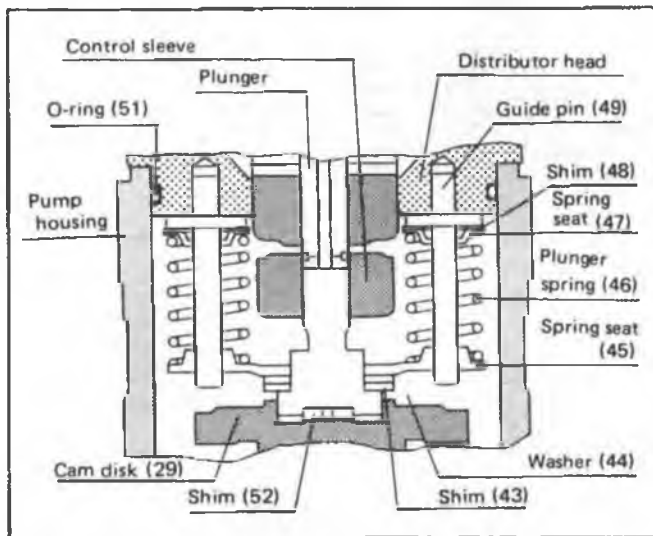

Fig. 4-36 Plunger Shims
5. Use a wide blade screw driver to remove the 4 head screws (60).
6. Remove the distributor head (50/1) from the pump housing together with the "O" ring (51). During this operation, be careful not to lose the two springs (106), guide pin (49), shim (48) or spring seat (47).
NOTICE: Do not remove the plunger (50/2) unless it has been disturbed. If it is disturbed, remove it with the control sleeve (50/3), plunger spring (46), spring seat (45), shim (43) and washer (44) (Fig. 4-36).